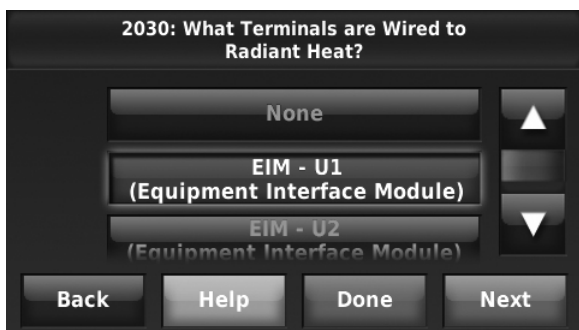

Fig. 201.
3. Select the universal terminals wired to the Geothermal Radiant Heat. See Fig. 201.